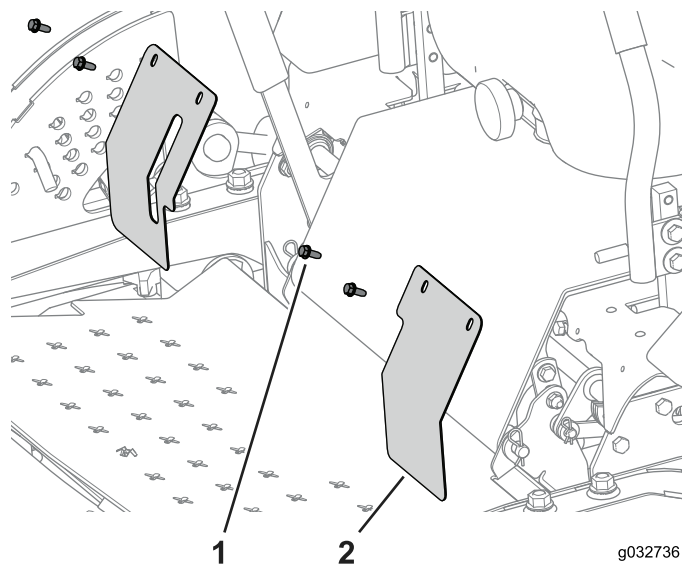

Figure 53
1. Remove the bolts and 2 cover plates to access the nuts and bolts that secure the summer frame to the machine (Figure 53).